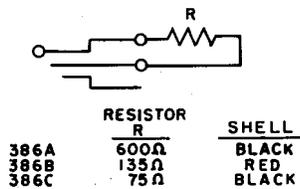

Fig. 10—386-Type Plug
2.10 **386A, B, and C:** The 386-type (Fig. 10) are 3-conductor plugs equipped with a long shell. The 386-type plugs are not arranged for cord connections.